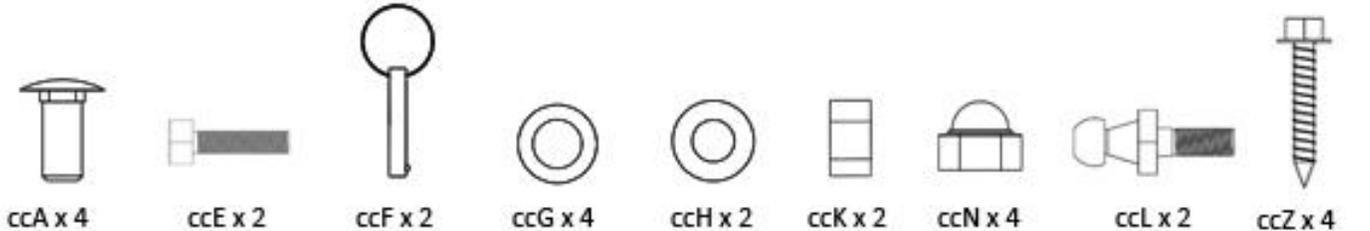

Figure 1
1. Lay out all the parts and verify that they are all present according to the Cover Caddy Parts and Hardware List. See Fig 1.